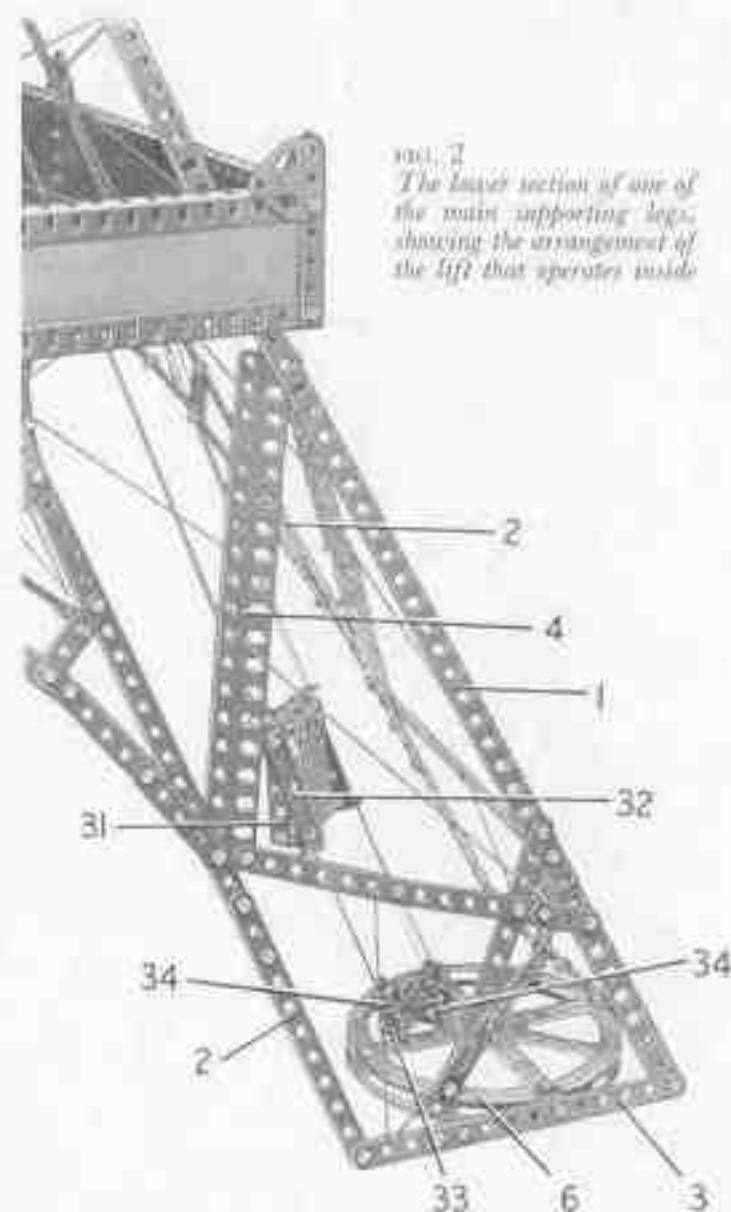
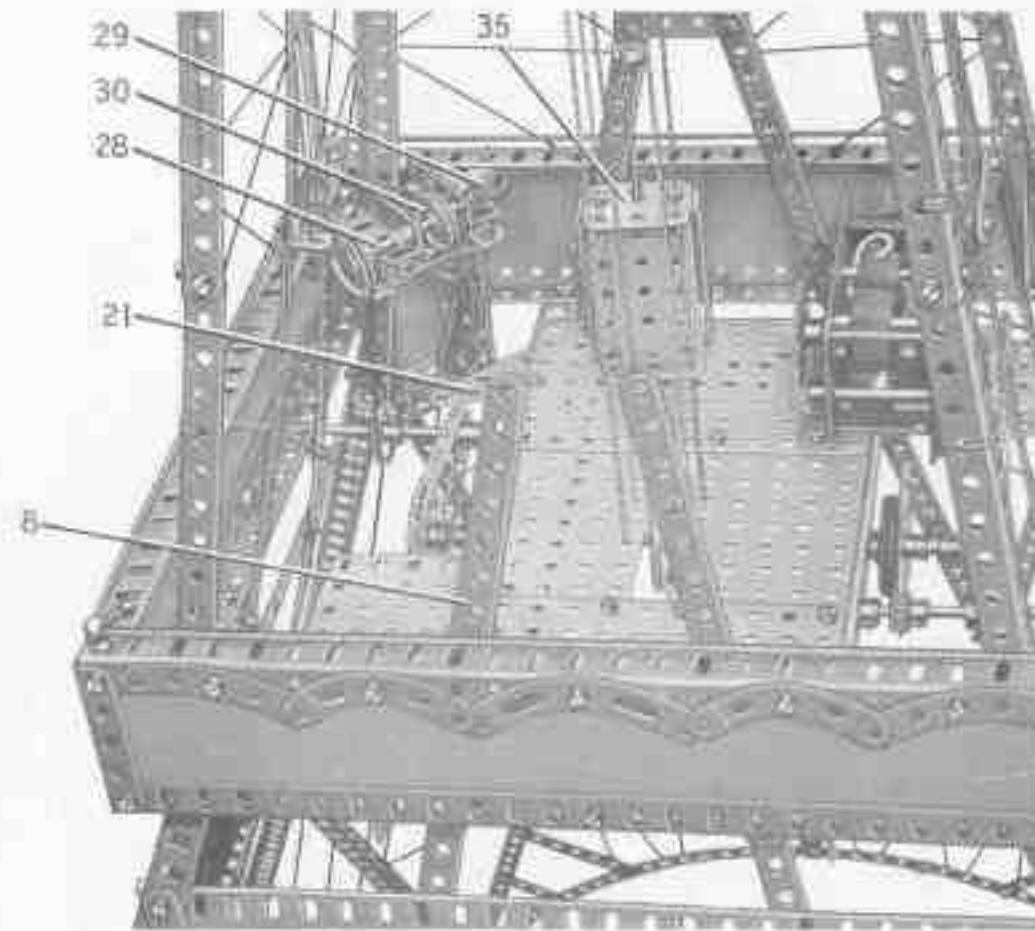

FIG. 2
FIG. 7 Another view of the centre landing platform
Details of the Lifts (Figs. 2, 5, 6 and 7)
The lift working to the centre platform is made by bolting 1 1/4" Angle Girders to each end of a 2 1/4" x 1 1/4" Flexible Plate. A 2 1/4" x 1/2" Double Angle Strip (31) (Fig. 2) on each side is fixed between the Angle Girders, and a further 2 1/4" x 1/2" Double Angle Strip (32) is arranged on each side. The Double Angle Strips (31) and (32) are bolted together at the top and are connected by a Fishplate at their lower ends. The guides for this lift are provided by a length of Cord tied to one of the 2" Angle Girders bolted to girder (29) (Fig. 7). The Cord is passed through the lugs of one of the Double Angle Strips (32), through a 2 1/4" x 1/2" Double Angle Strip (33) (Fig. 2) bolted to the Hub Disc (6), and through the lugs of the other Double Angle Strip (32). The Cord is pulled tight and is tied to the second 2" Angle Girder. The lift-operating Cord is tied to a Fishplate bolted to the top 1 1/4" Angle Girder of the lift and to a Tension Spring placed between the two Angle Girders; it is then taken over Pulley (30) (Fig. 7) and round two 1" Rods held by Spring Clips in Double Brackets (34) (Fig. 2). The Cord is then passed through the lower 1 1/4" Angle Girder of the lift and is tied to the bottom loop of the Tension Spring so that the Spring is stretched slightly.